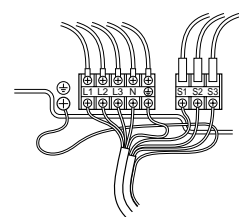

Fig. 6-2
### 6.1. Outdoor unit (Fig. 6-1, Fig. 6-2)
- Wire the cables referring to the Fig. 6-1 and the Fig. 6-2.